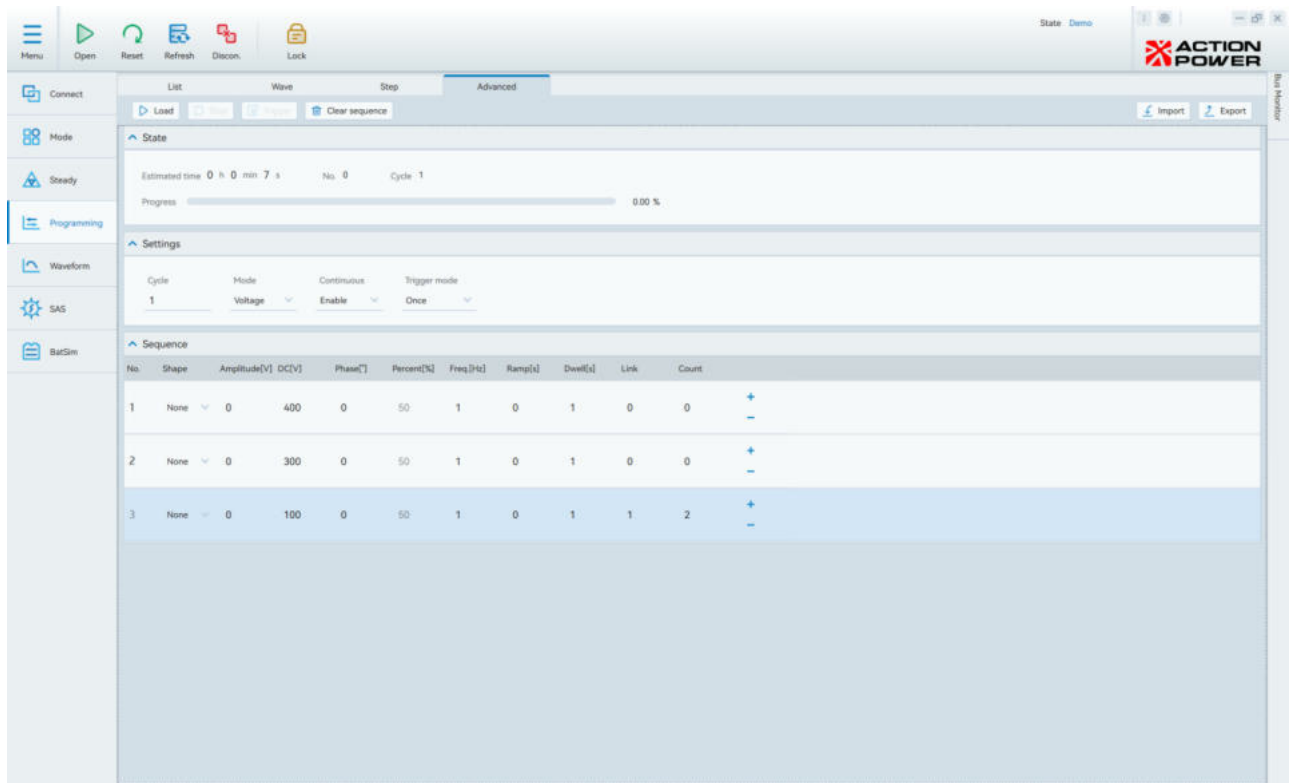
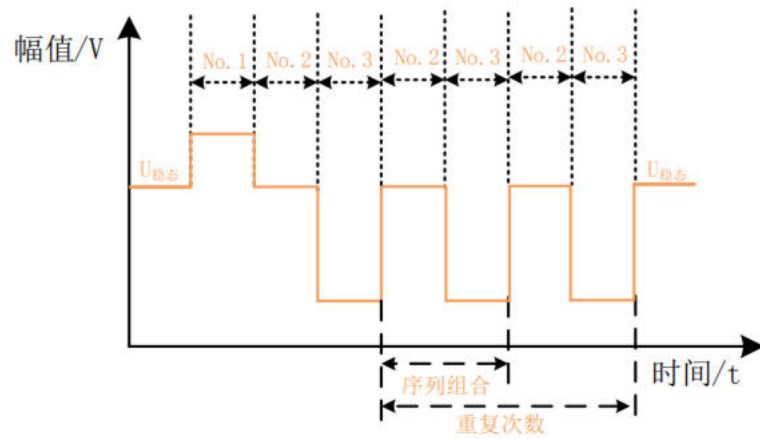

Figure 4.3.10 Schematic Diagram of Advanced Sequence Configuration
Figure 4.3.11 Advanced Sequence Combination Waveform Diagram
- Example: Advanced allows configuring sequence combinations and repetition counts. The Advanced sequence configuration diagram is shown in Figure 4.3.10. In No.3, set the sequence combination to 1 and the repetition count to 2. After waveform triggering, it will rapidly transition from steady state to No.1 and begin executing the Advanced programming. Upon reaching No.3, since the sequence combination is set to 1, this sequence is combined with the previous sequence (No.1). With the repetition count set to 2, the combination repeats twice. The waveform is shown in Figure 4.3.11.